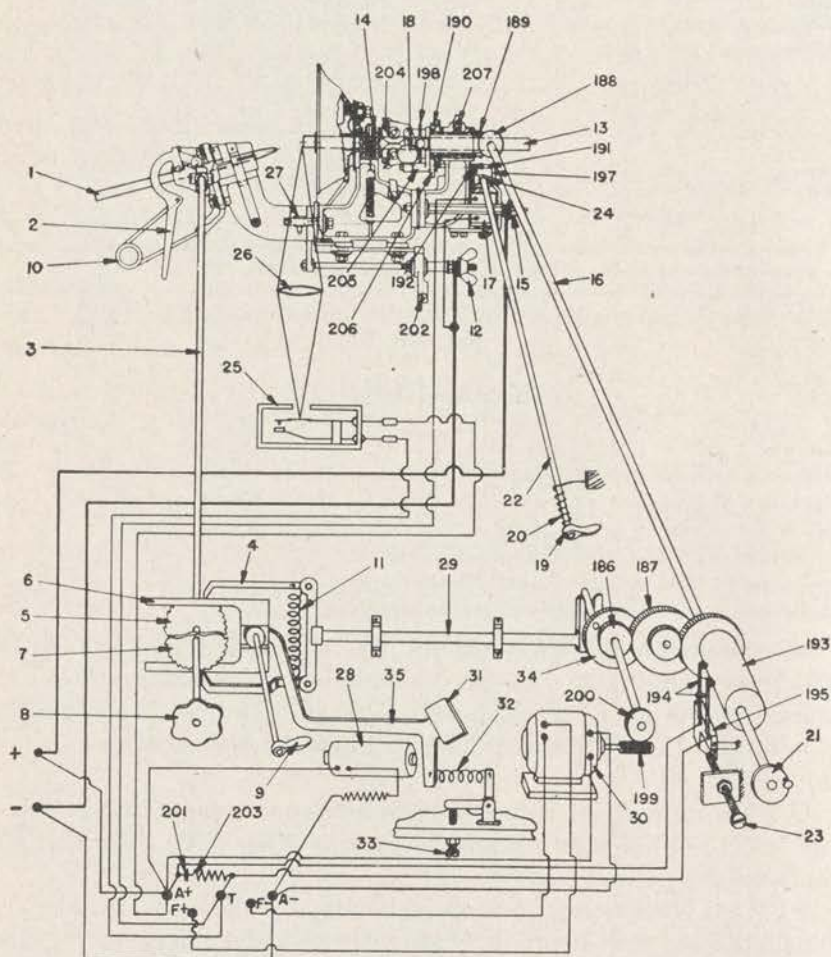
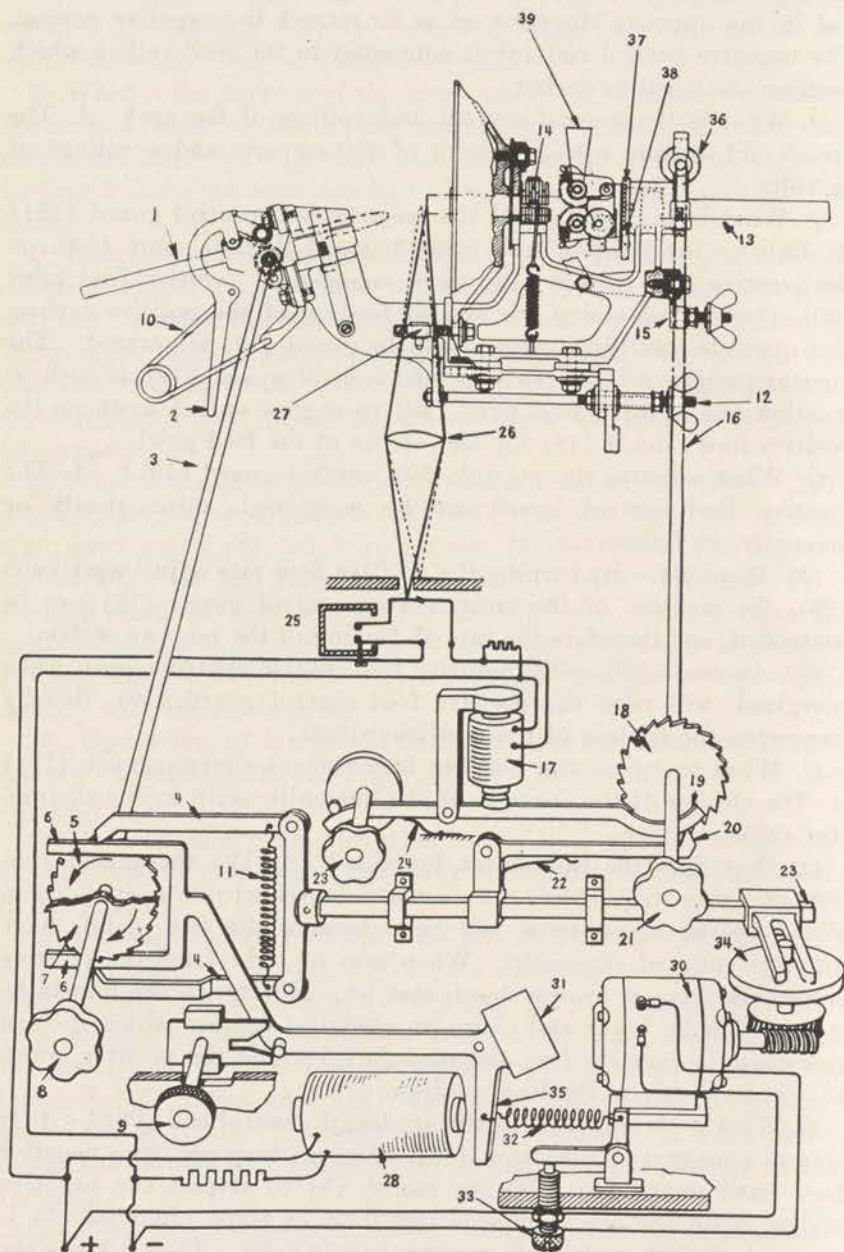

FIGURE 28.—Schematic diagram of the Sperry M1941 lamp and lamp control mechanism.
FIGURE 29.—Schematic diagram of the Sperry M1940 lamp and lamp control mechanism.
**23. Operation of lamp and lamp control mechanism, M1941 Sperry searchlight.**—*Q.* Describe briefly the operation of the lamp control mechanism. *A.* The lamp control mechanism and lamp are shown in schematic form in figure 28.
(1) *Positive carbon feed system.*—The feed motor (30) drives, through a set of gears, the positive rod (16) which drives miter gear (188) and a driven miter gear. Miter gear (189) drives a yoke carrying with it a set of gears. This set of gears includes a ratchet and gear assembly (190) which, when prevented from rotating by a feed plunger (191), causes a planetary gear (206) to rotate, which in turn causes the feed rollers to rotate, thus feeding the positive carbon forward.
(2) *Negative carbon feed system.*—The negative carbon feed system operates as follows: The feed motor (30) drives through eccentric gear (186), which in turn causes the reciprocating feed member (29) and the feed pawls (4) to oscillate back and forth. One of the feed pawls (4) (depending upon the position of the negative feed control guard (6) drives the negative control rod (3) so as to feed the negative carbon forward. The other pawl (4) drives the control rod in the opposite direction so as to retract the negative carbon. The negative control rod (3) is connected to the feed rollers which position the negative carbon.
*Q.* What operates the positive feed plunger (191), figure 28? *A.* An electromagnet which may be energized from two sources: a cam operated switch (195) or thermostat (25).
*Q.* How does the thermostat function? *A.* It is a thin strip of two different metals welded into a single strip. When heated this strip will bend because the two metals have different rates of expansion. When rays of light from the positive crater are focused by the thermostat lens (26) on to the bimetallic strip, the strip bends and closes an electrical contact which in turn energizes the positive feed electromagnet.
*Q.* What is the function of the arc length control coil (28)? *A.* It acts as a magnet on armature (35), which in turn positions negative feed pawl guard (6), allowing ratchet (5) to retract the negative carbon when the arc voltage is less than 78 volts. Ratchet (7) is engaged when the voltage is greater than 78 volts. Thus it keeps the negative carbon positioned so as to maintain a constant arc length. It functions on the electrical principle that the arc voltage varies directly with the arc length.
*Q.* Describe briefly the operation of the lamp control mechanism. *A.* The control mechanism and lamp are shown in schematic form in figure 29.
(1) *Positive carbon feed system.*—The feed motor (30) drives an eccentric disk (34) causing the reciprocating feed member (29) and positive feed pawl (20) to move back and forth. Positive feed pawl (20) engages the teeth on positive feed ratchet (18), rotating it and the positive control rod (16) in a counterclockwise direction. Control rod (16) drives gear (36), causing a yoke carrying planetary gear (38) to rotate. Planetary gear (38), through a worm drive, causes the carbon feed rollers to rotate and feed the positive carbon forward.
(2) *Negative carbon feed system.*—The reciprocating feed member (29) and the feed pawls (4) oscillate back and forth. One of the feed pawls (4) (depending upon the position of the negative feed control guard (6)) drives the negative control rod (3) so as to feed